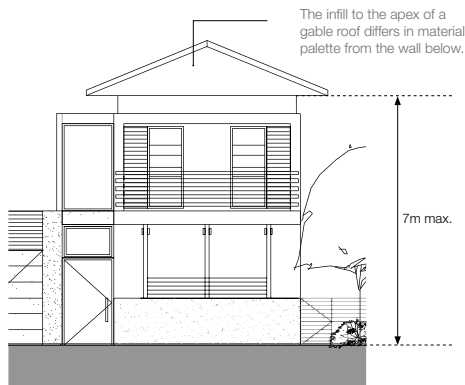

Figure 6
- Where a gable roof is located on the primary façade, a maximum wall height of 7m measured from the finished surface level to the underside of the eave at its lowest point applies. (Refer to Figure 6).